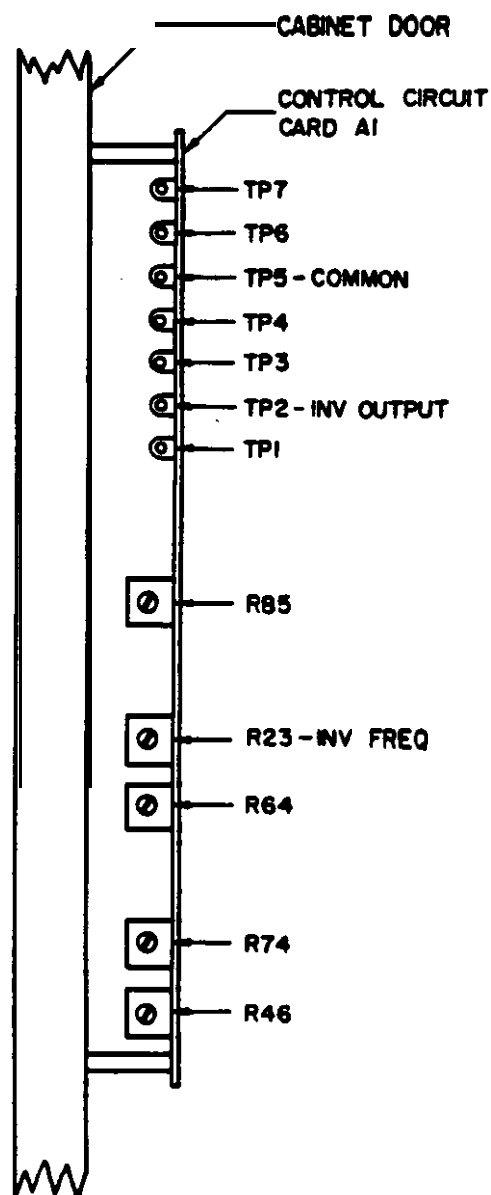

Figure 6-4. Potentiometer and Test Point Locations
- d) Insure that the oscilloscope is not grounded through the power cord if an AC-operated instrument is being used. Connect the probe common lead to circuit card A1 test point TP5. Connect the oscilloscope probe to test point TP2. Refer to Figure 6-4 for test point locations.